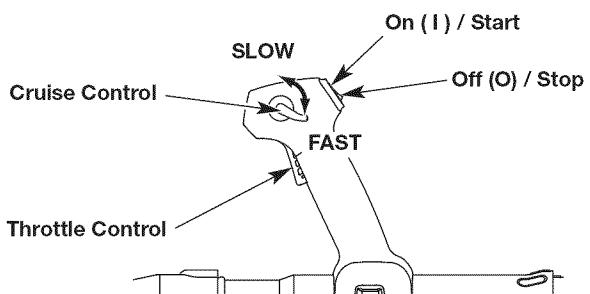

Fig. 7
- NOTE:** There is no need to turn the unit on. The On/Off switch is in the ON (I) position at all times (Fig. 7).
5. Move the cruise control to the FAST position (Fig. 7).
2. Press and hold the On/Off switch in the OFF (O) position until the engine comes to a complete stop (Fig. 7).
- NOTE:** There is no need to turn the unit on. The On/Off switch is in the ON (!) position at all times (Fig. 7).
- Use the cruise control to make continuous operation easier (Fig. 7).